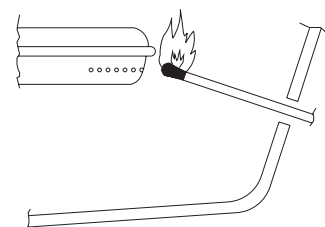

FIGURE 23
6. If a burner does not light, turn OFF all gas and refer to the Troubleshooting section of this manual. FIGURE 23.